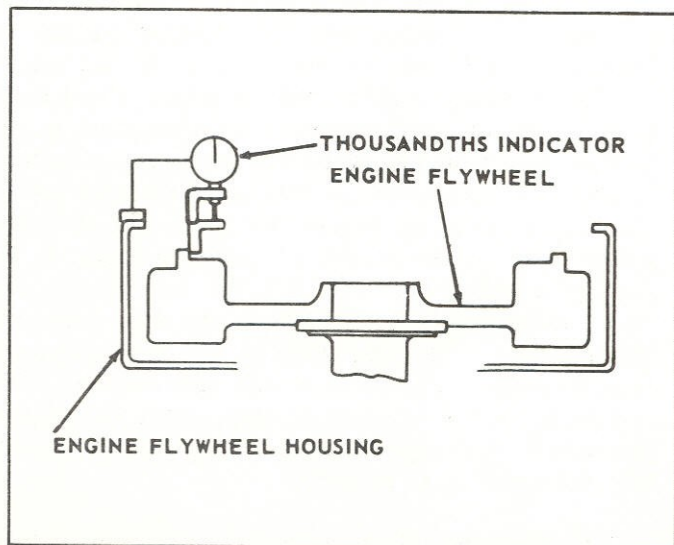

Figure 40. Checking the Isolator Pilot Bore of the Engine Flywheel.
**E. Checking Isolator Pilot Bore of Engine Flywheel.** With the indicator bolted as in Paragraph 50D above, adjust the indicator stem so that it will ride on the isolator pilot bore (fig. 40). The pilot bore eccentricity of the engine flywheel should not exceed .005 inch maximum total indicator reading.